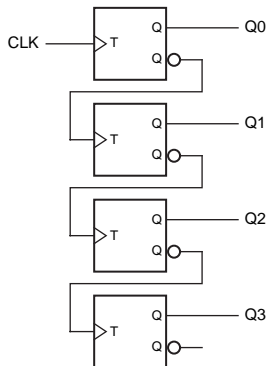

Figure 20: A 4-bit binary ripple counter.
- In Fig. 20, each bit of counter toggles if and only if the immediately preceding bit changes from 1 to 0